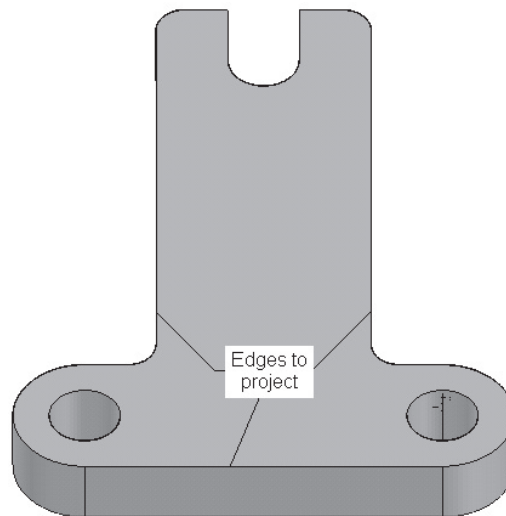

Figure 4-51 Selecting the entities to project
8. Make sure the **Include with offset** and **Include internal face loops** check boxes are cleared in this dialog box. Choose **OK** from this dialog box and then select the edges to project, as shown in Figure 4-51.